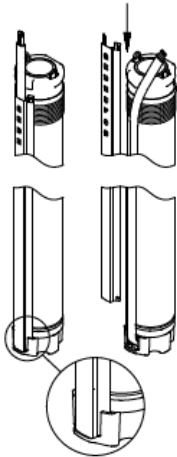

Figure 3-3: Placing the Cable Guard
2. Place the cable guard in the groove in the cable plug. The two flaps must engage with the upper edge of the pump sleeve, see **Figure 3-3**.